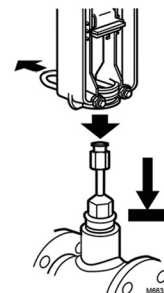

Fig. 2. Attaching actuator to valve collar.
1. Place the actuator on the valve with the U-bolt around the valve collar. See Fig. 2.